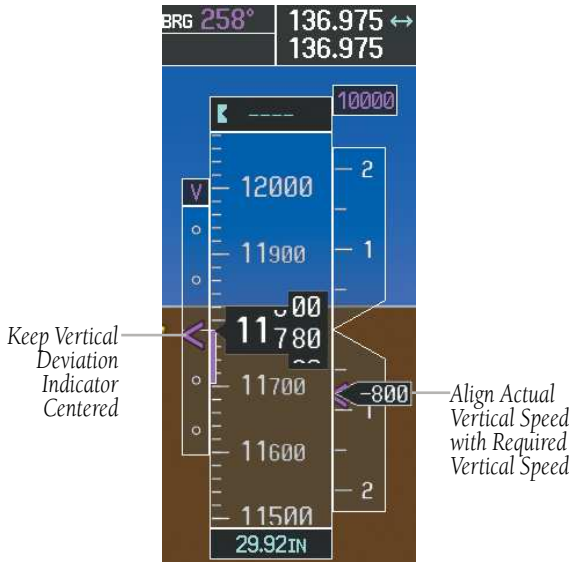

Figure 7-39 VDI & RVSI Showing Correctly Established Descent
- 16) Upon reaching TOD, a descent vertical speed is established by placing the VSI pointer in line with the RVSI as shown in Figure 7-39.